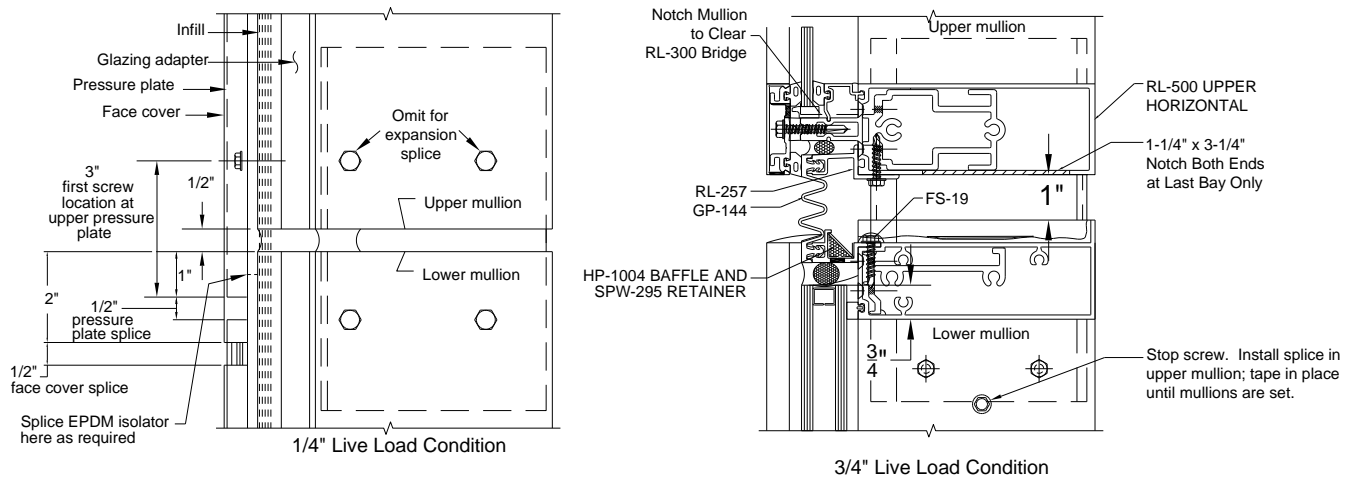
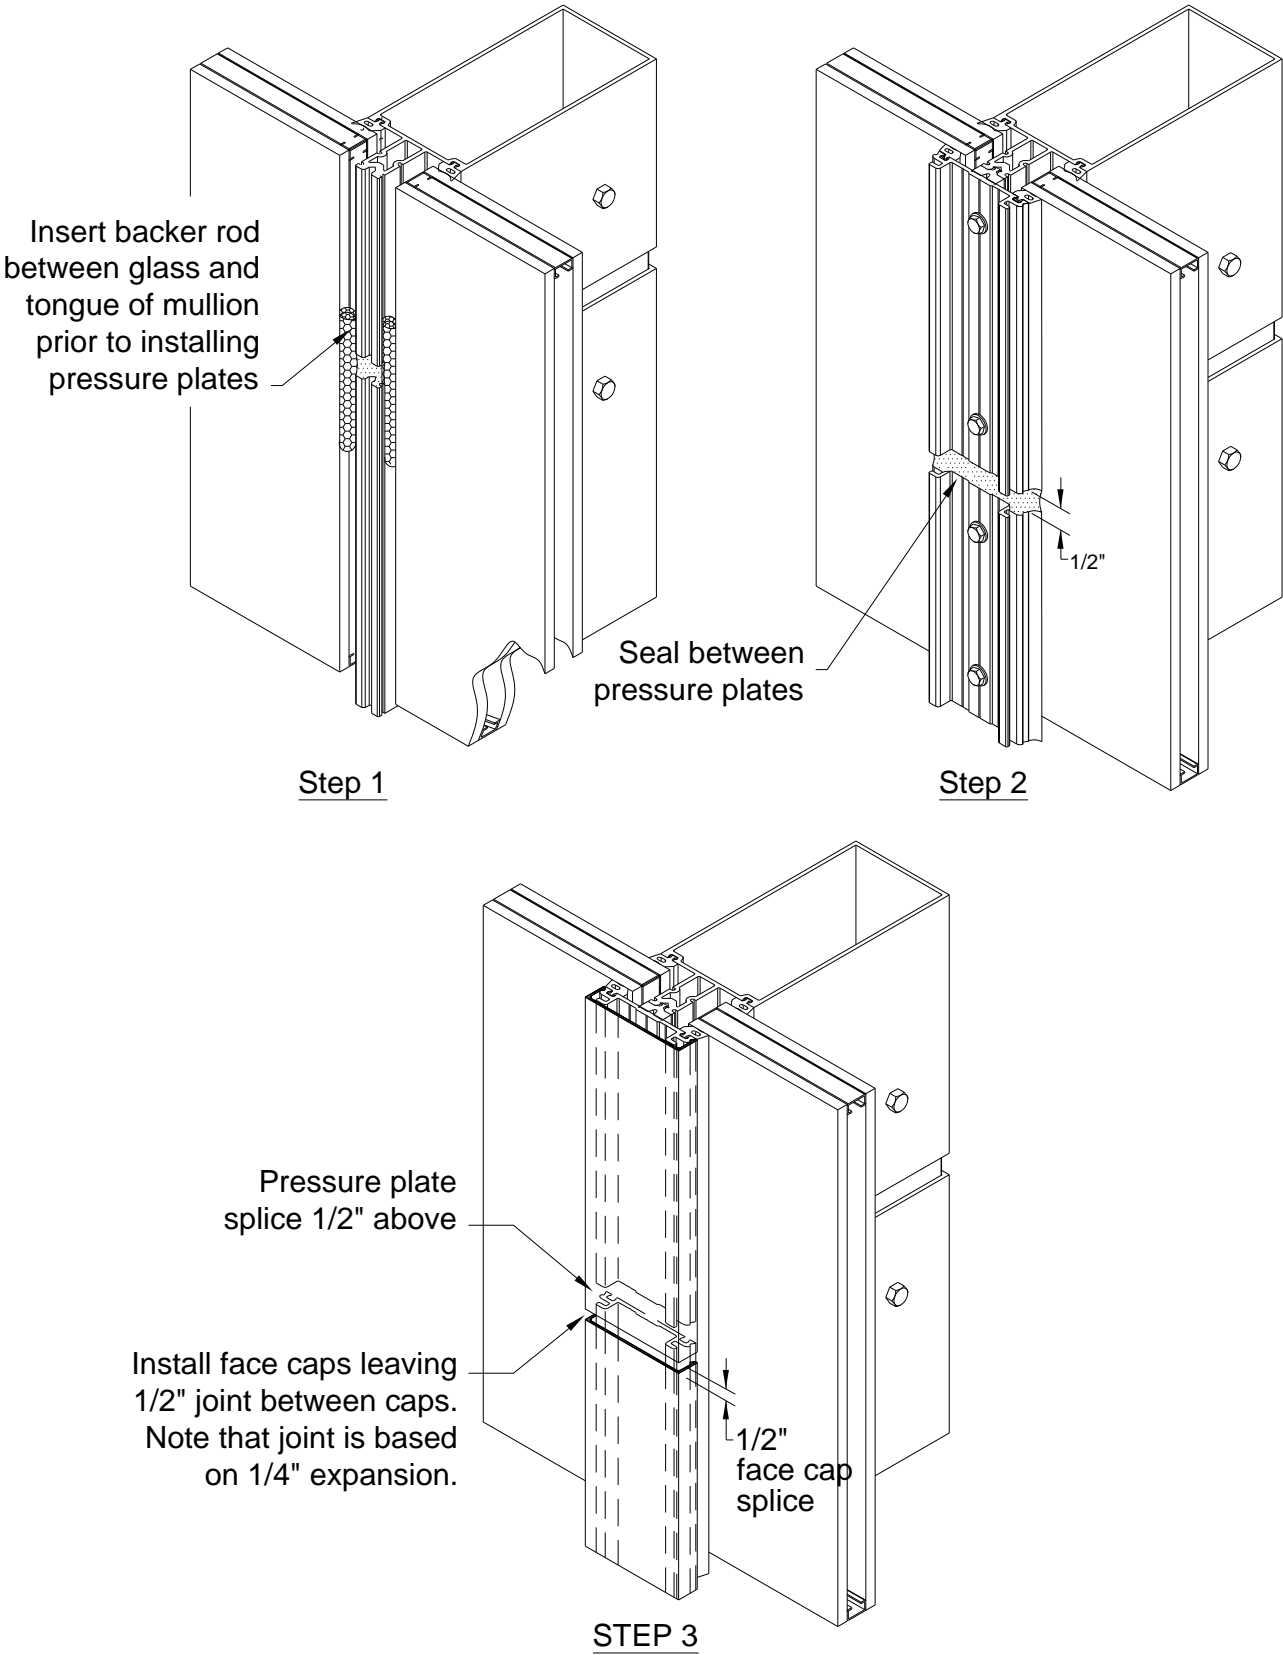

Figure 23: Vertical Mullion Splice
Figure 24: Splice Joint Sealing Instructions
- 12.4 Offset pressure plate and face cover joint locations per *Figure 23*. Seal the pressure plate and face cover joints as shown in *Figure 24*.
- 12.5 Apply bond breaker tape to the face of splice sleeves, returning back on the sides 1" minimum. Insert backer rod into the hollow of the vertical mullion, top and bottom. Seal between top and bottom mullion from the front of the tongue to 1" behind glass pocket. Follow the contour of the glazing reglets with the sealant to ensure a good seal when gaskets are installed. See *Figure 24*.